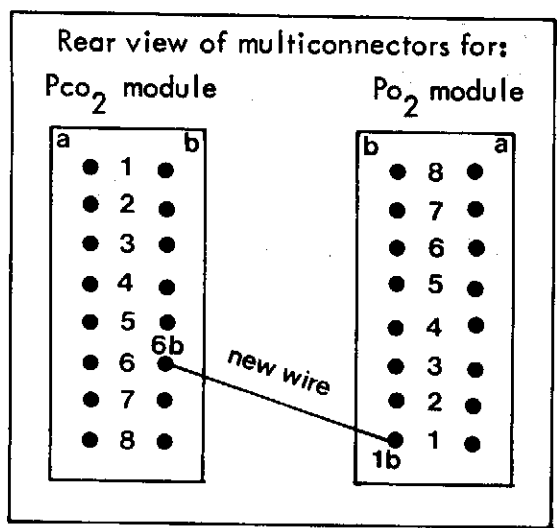

Fig.1. Rear view of multiconnectors for the modules
- 4) Refer to Fig.1 and locate tag 1b on the multiconnector for the Po₂ Module and tag 6b on the multiconnector for the Pco₂ Module. (Tag identification is moulded into the front and rear of the insulation blocks of the multiconnectors).
- 5) Connect an insulated wire between these tags as shown in Fig.1.